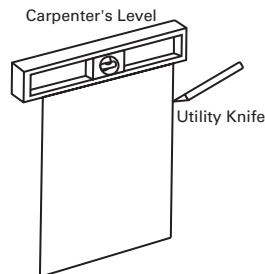

Figure 11: Cut Wall Opening
3. With a utility knife, cut the wall opening, as shown in Figure 11.